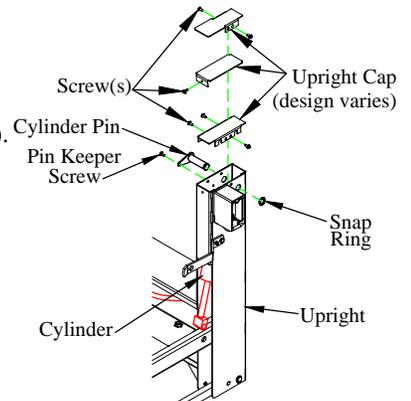

Figure 4: Upright cap and cylinder pin.
3. **REMOVE** the upright cap screw(s) from the uprights (Figure 4).
4. **REMOVE** the upright cap (Figure 4). Upright cap design may vary.
5. **REMOVE** the cylinder pin (Figure 4).
8. **INSTALL** the cylinder pin (Figure 4).
13. **INSTALL** the upright cap and 1/4-20 x 1/2" screw(s) (Figure 4).